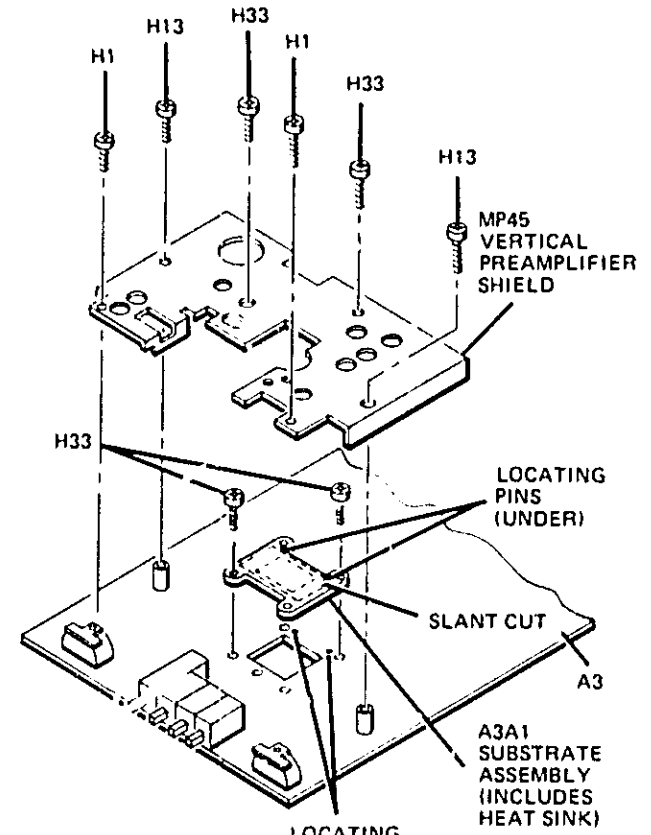

Figure 8-13. A3A1 Removal
IC A3A1 Removal (see figure 8-13):
- To reinstall A3A1, reverse removal procedure, be certain that orientation of location pins is as shown in figure 8-13.